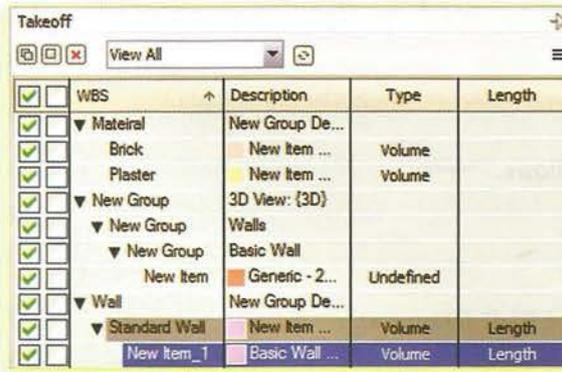

Fig 8: Drag Items
- Switch to 'Takeoff' palette. Drag the 'New item 1' wall into 'Standard Wall' (Figure 8).